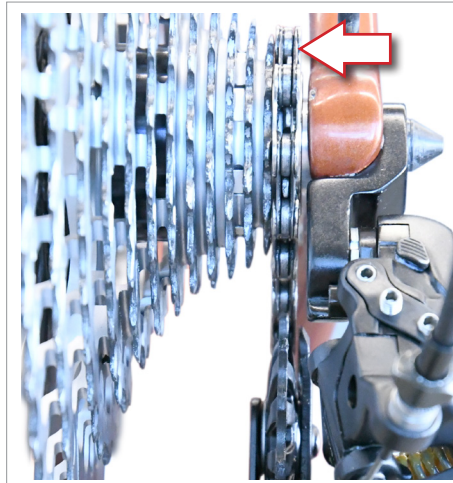
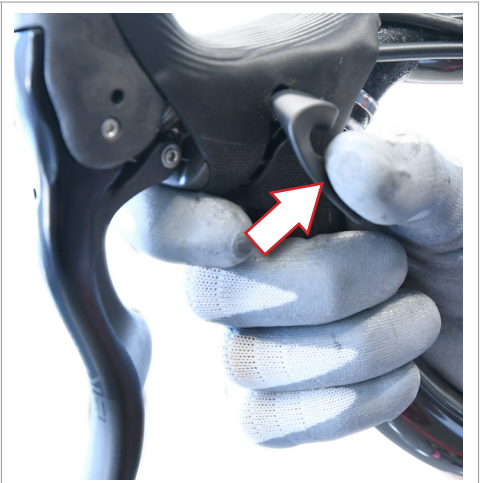

Fig.7
Fig.8
- Carry out this operation with the chain positioned on the smallest sprocket (**Fig. 7**) of the freewheel and with the Ergopower™ control button set to zero (**Fig. 8**).